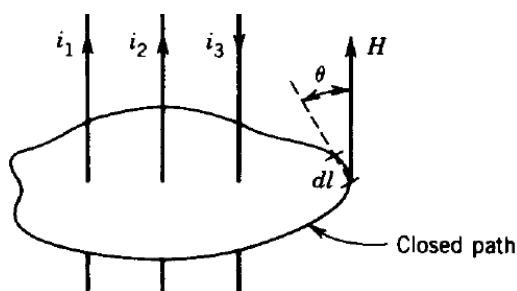

Fig. 10, Illustration of Ampere law
But the number of flux lines is denoted by the magnetic field intensity (H), which is constant either at aa' or at bb'. The relationship between current (i) and field intensity (H) can be obtained from **Ampere Law** which states that the line integral of the magnetic field intensity H around a closed path is equal to the total current linked by the contour, as shown in Fig. 10.